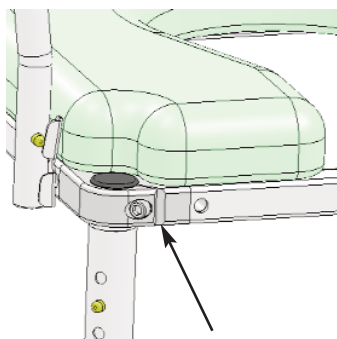

Figure 11
**C Fasteners:** Over time the screws and washers on the chair may become loose. It is very important that these are checked and securely tightened before each use. Failure to do so could cause a part to dislodge from the chair (Refer to Figure 11).